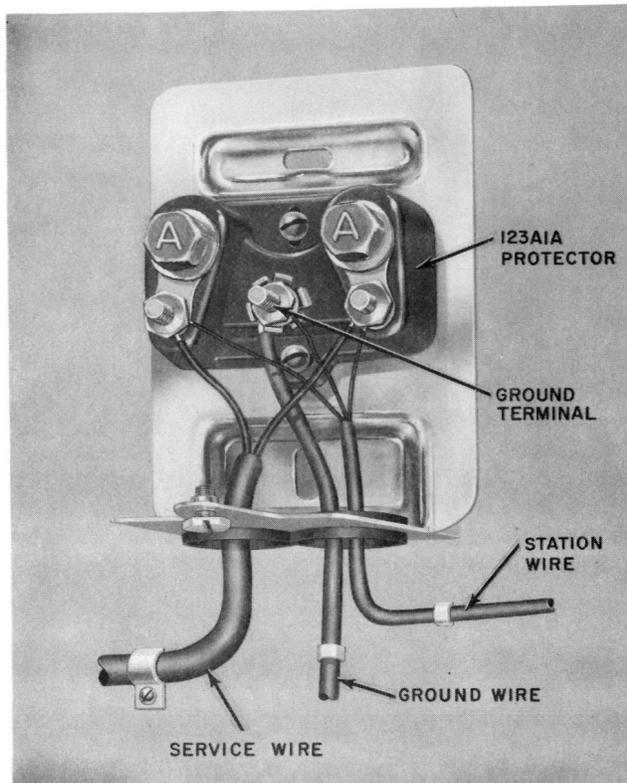
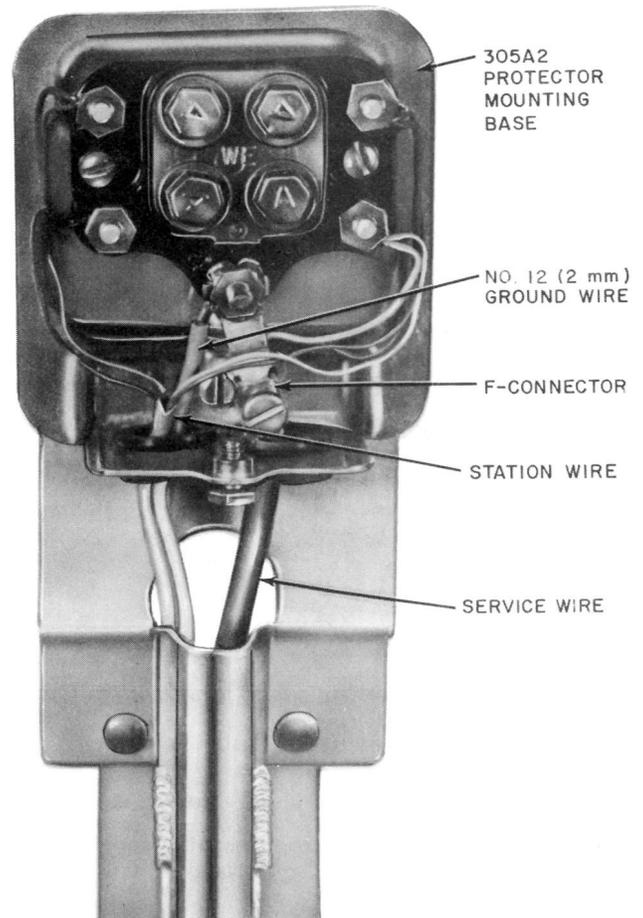

Fig. 26—123A1A Protector Installed in 305A2 (MD) Protector Mounting
Fig. 27—305A2 (MD) Protector Mounting Installed on a Protector Mounting Post
3.32 The 305A2 (MD) protector mounting consists of a metal base and a removable metal cover. The base has two slotted mounting holes and four tapped holes, two vertical and two horizontal, for installing 123- and 128-type protectors. Two screws are furnished with the mounting. The 305A2 (MD) protector mounting can be mounted on any flat surface (Fig. 26) or on a PMP (Fig. 27).